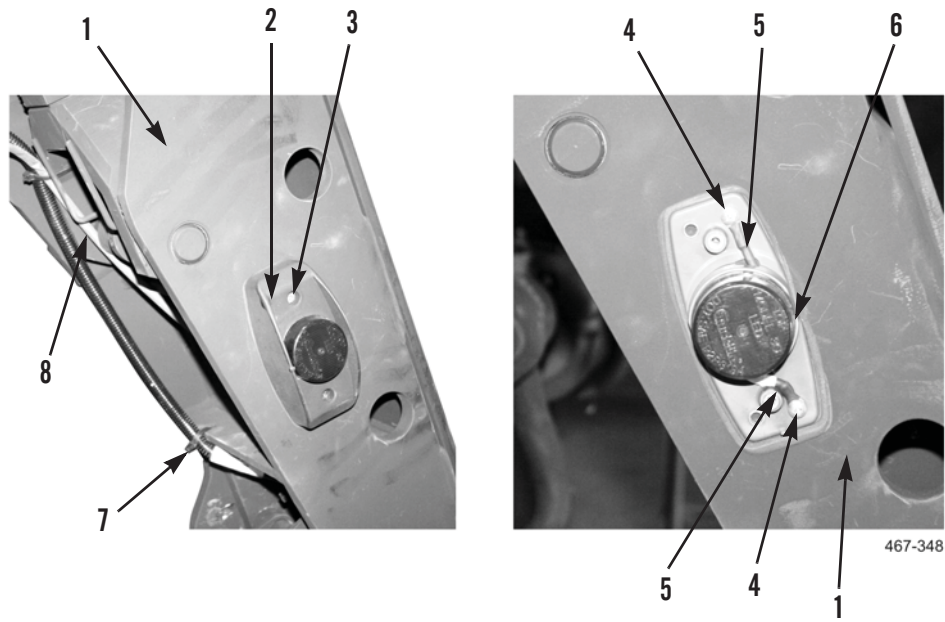

Figure 6. Slider Bed Light Installation.
9. Feed wiring harness (Figure 6, Item 8) through slider bed (Figure 6, Item 1) and install light (Figure 6, Item 6), two ground wires (Figure 6, Item 5), and screws (Figure 6, Item 4) on slider bed.
10. Install light cover (Figure 6, Item 2) and two screws (Figure 6, Item 3) on light (Figure 6, Item 6).
11. Install new tiedown straps (Figure 6, Item 7) as required.